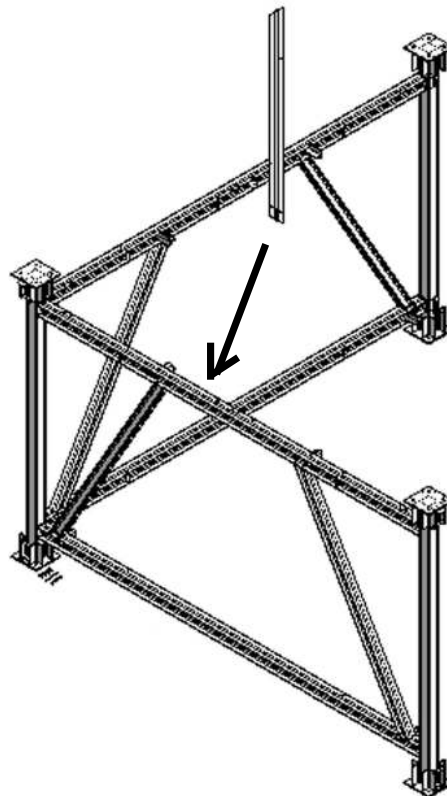

Fig. 5.2
3. Connection of the two frames with a SP-diagonal brace (made by means of 2 x 2 hexagonal bolts M12x40 with washer M12 and hexagonal locking nut M12). The support against tilting must be removed (Fig. 5.2).